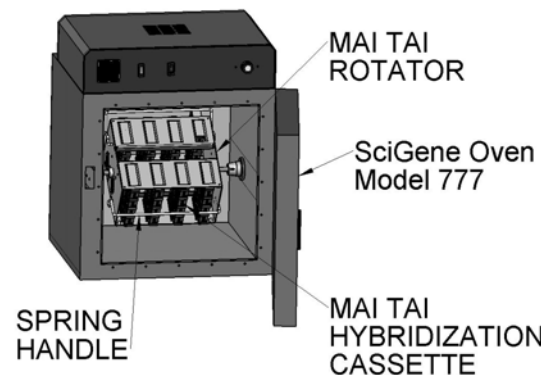

FIGURE 8
10. Place the assembly into the Mai Tai™ Rotator in the pre-heated oven. Raise the spring bar and load each Mai Tai™ Cassette into the sleeves of Mai Tai™ Rotator as shown in Figure 8.